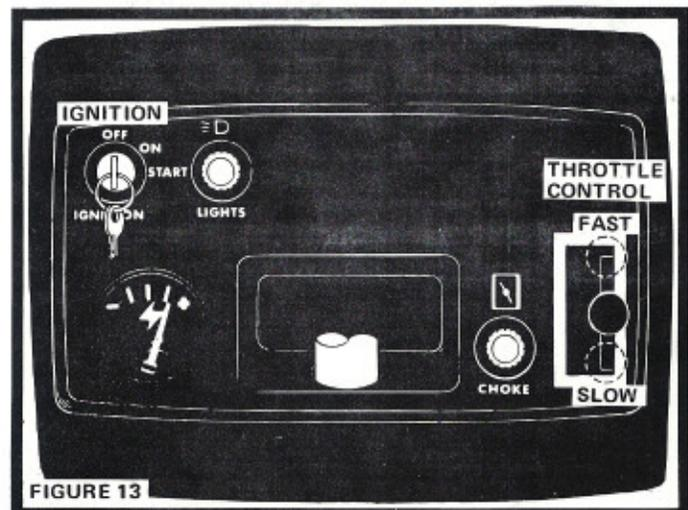

FIGURE 13
6. Move Throttle Control Lever to middle position (Fig. 13).
7. Pull Choke out (Fig. 13).
8. Turn Ignition Key to "START" position until Engine starts (Fig. 13). Release key into "ON" position.